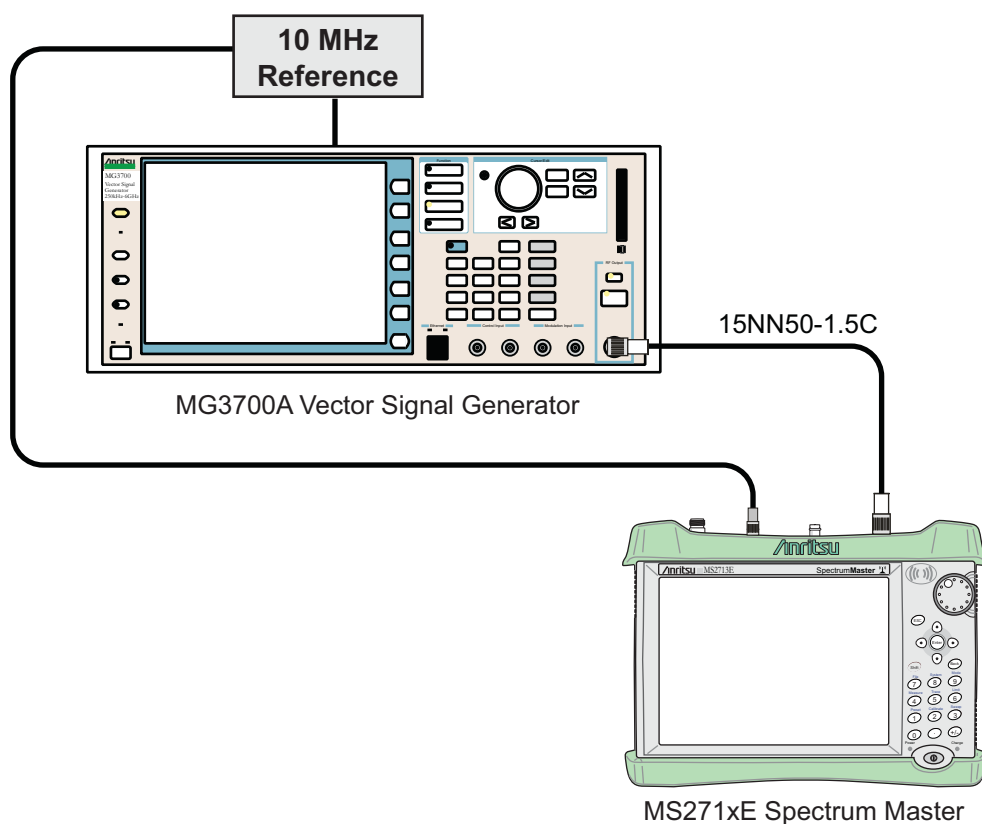

Figure 3-16. Frequency Accuracy and Residual MER Verification
1. Connect the 10 MHz External Reference signal into the MG3700A and Spectrum Master as shown in Figure 3-16 on page 3-64.
1. Connect the 10 MHz Frequency Reference source to the Anritsu MG3700A and Spectrum Master as shown above in Figure 3-16 on page 3-64.